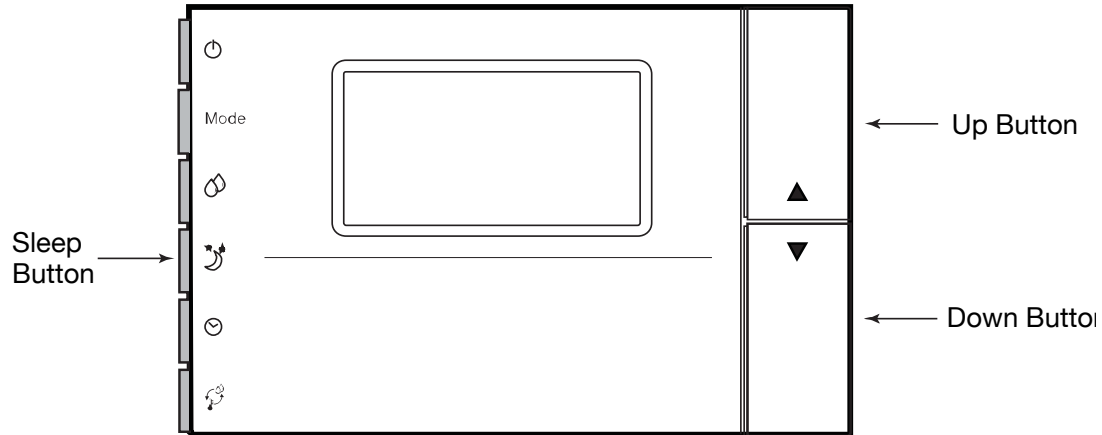

Figure 47
2.6 - Remote Room Sensor Configuration (Figure 47)